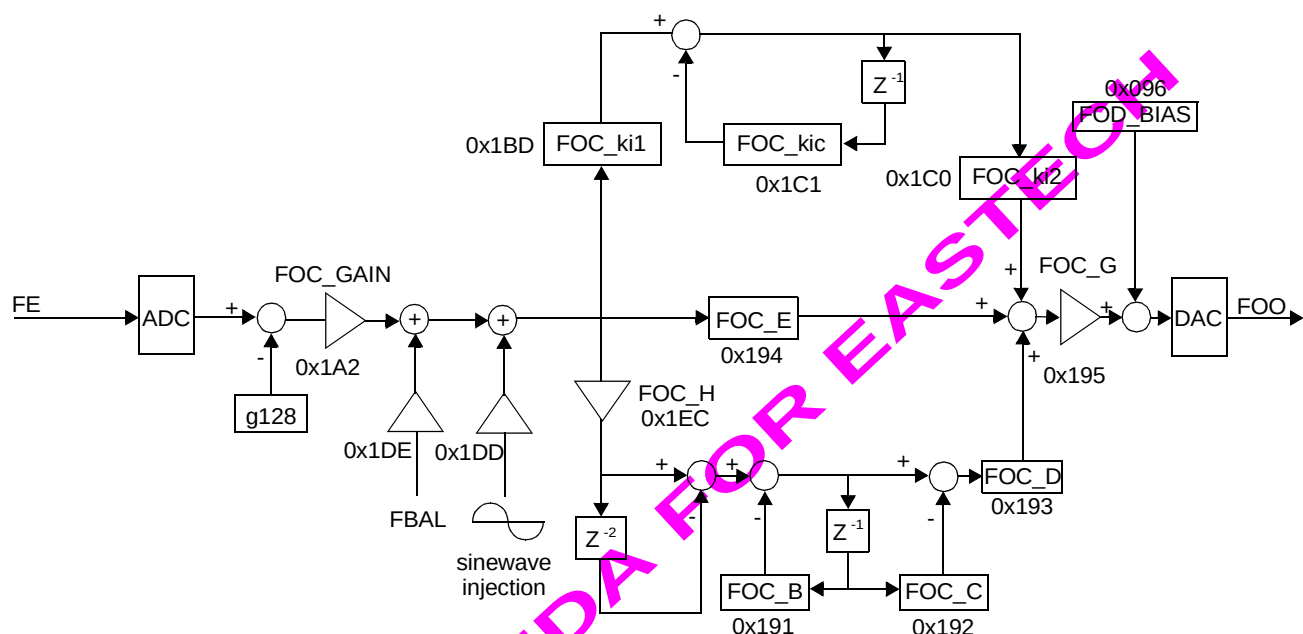

Figure 7 Focus Equalizer Diagram
The focus servo mainly controls the pickup lens vertical position to keep the beam focused on the surface of the media. This is achieved through the focus equalizer, which adjusts the focus output control signal (FOO) according to the focus error (FE). The overall focus control system shown in Figure 7 is described in Table 7. Focus servo equalizer changed coefficients are listed in Table 8.